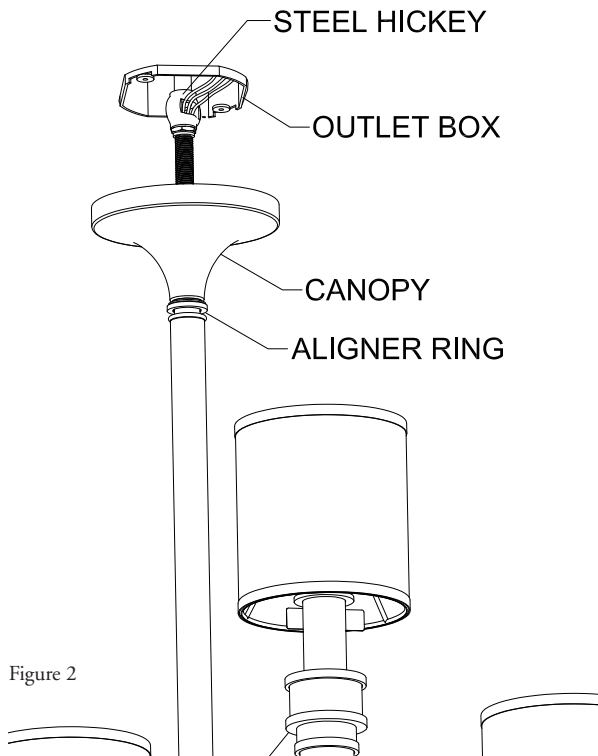

Figure 2
Step 11 Slide canopy up to the ceiling and secure in place with aligner nut. (See Figure 2)